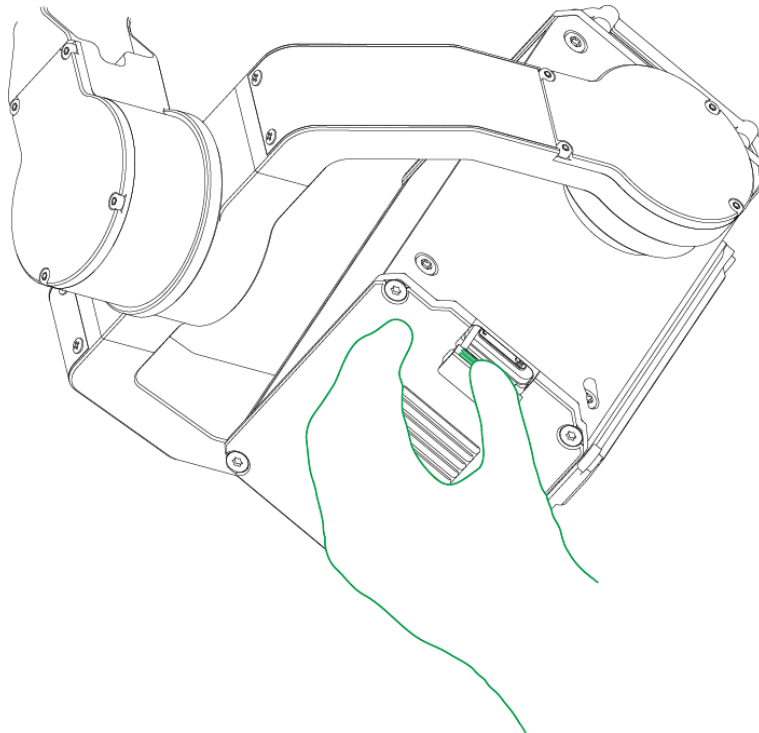

Figure 3-3
Step 1 Open SD card plug with a hand, as shown in Figure 3-3.